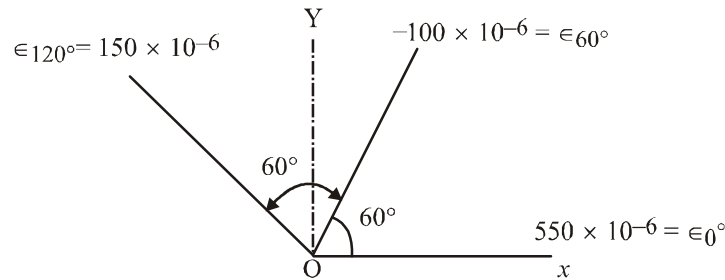

Fig. 3
7. The measured strains in three directions inclined at 60° to one another as shown in **Fig. 3** are 550×10^{-6} , -100×10^{-6} and 150×10^{-6} . Calculate the magnitude and direction of the principal strains in this plane. If there are no stresses perpendicular to the given plane, determine the principal stresses at the point. Take $E = 200,000 \text{ N/mm}^2$ and poisson's ratio = 0.30. Show the states of principal stresses and principal strains on properly oriented elements as well.